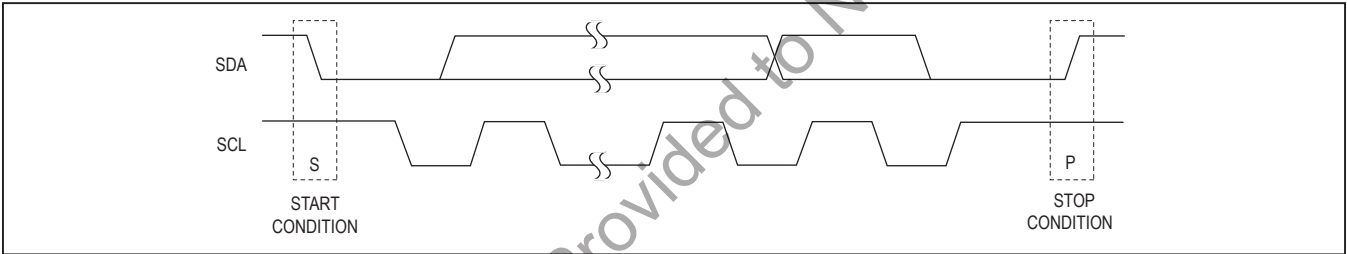

Figure 38. START and STOP Conditions
Both SCL and SDA remain high when the interface is not busy. A master signals the beginning of a transmission with a START (S) condition by transitioning SDA from high to low while SCL is high (see Figure 38). When the master has finished communicating with the slave, it issues a STOP (P) condition by transitioning SDA from low to high while SCL is high. The bus is then free for another transmission.